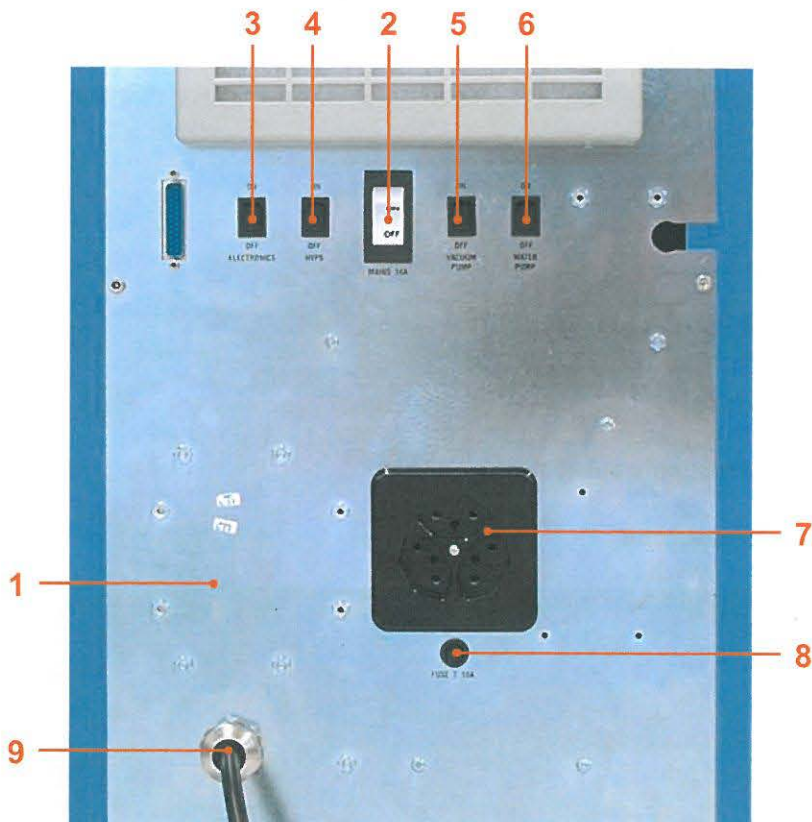

Figure 2.12
C : The switch breaker is not powered if the main switch breaker (figure 2.12, pos. 2) of the instrument is off.
The figure 2.12 shows the external side of the power distribution panel, seen from the back side of the instrument.
Key to figure 2.12: